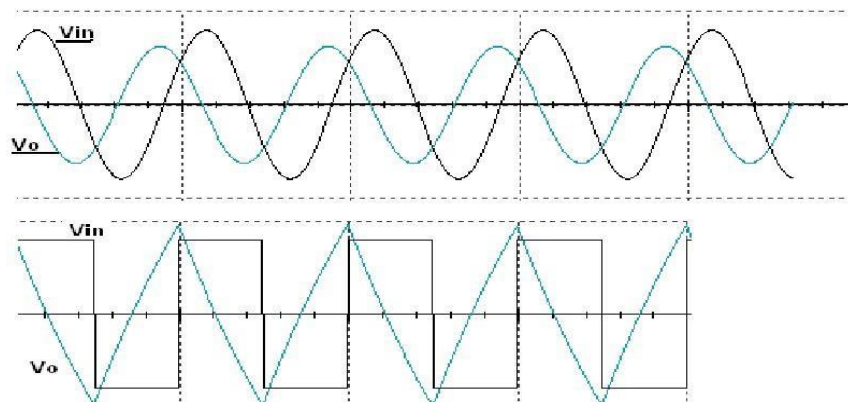

Figure 3
8. Plot the output voltages corresponding to sine and square wave inputs as shown in the Figure 3 below.